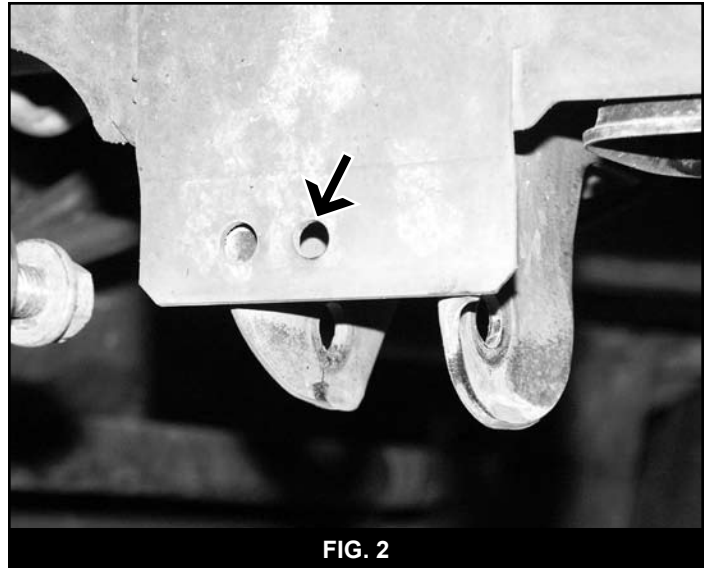

FIG. 2
5. Locate the center hole in the outside of the OE track bar mount (Fig 2) on the driver's side of the vehicle. Drill hole out to 1/2".